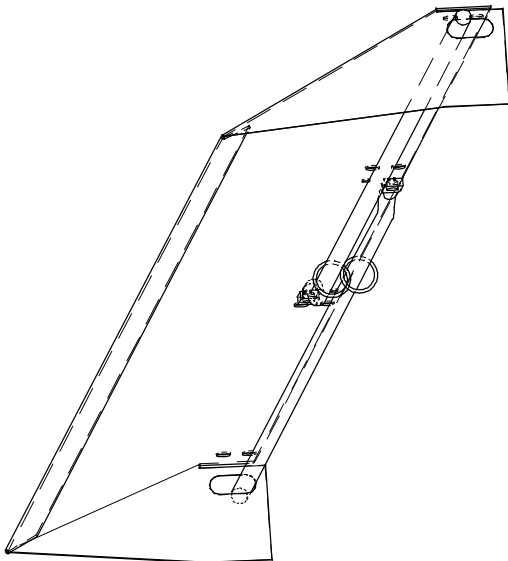

Fig. 8
3. Insert one of the Screen/Rod assemblies into the hole at end of the Mantel Guard/Hood (either end), start with the rear hole. The rod will pass through the Mantel Guard/Hood and then through the wall of the inner firebox (See Fig. 8).
4. Locate the corresponding hole(Rear Hole), near the center of the top pannel of the inner firebox, and install a provided sheet-metal screw through the hole in the Screen Mesh Wire Rod (see Fig. 8).
Note: the Screen and Rod assemblies will overlap at the center of the opening (See Fig. 8).